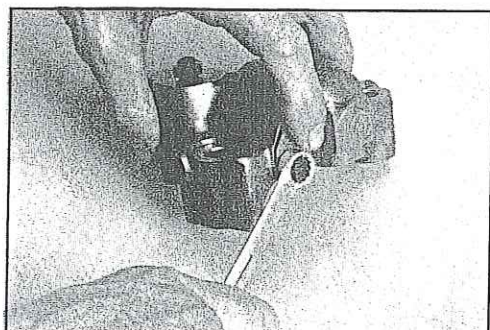

Fig. 49
1. Apply pressure to the control valve cover and carefully remove the control valve cover capscrew. See Fig. 49.